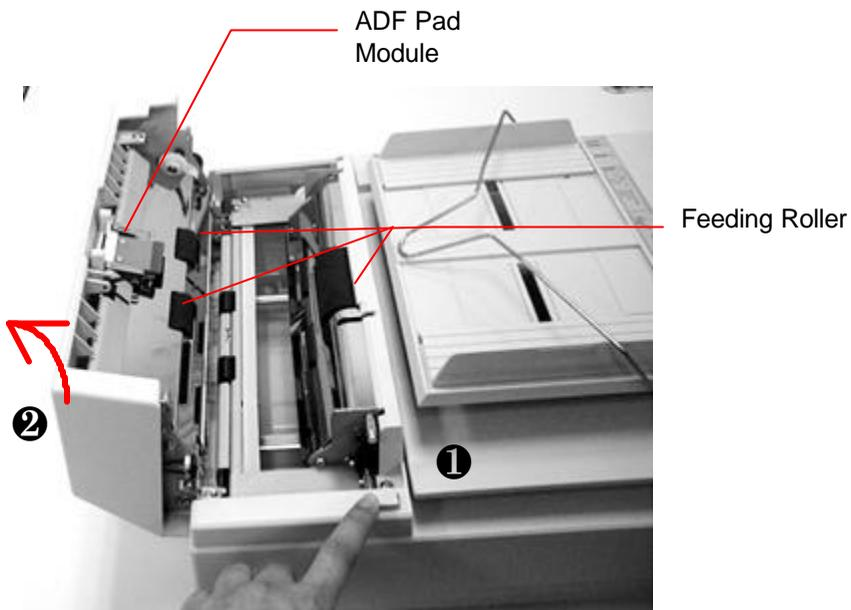

Figure 5-1 Opening the ADF unit.
2. Open the ADF unit as shown in Figure 5-1 and wipe the upper feeding roller by moving the swab from side to side. Rotate the roller forward with your finger and repeat the above cleaning procedures until the entire roller is cleaned. Be careful not to snag or damage the pick springs.